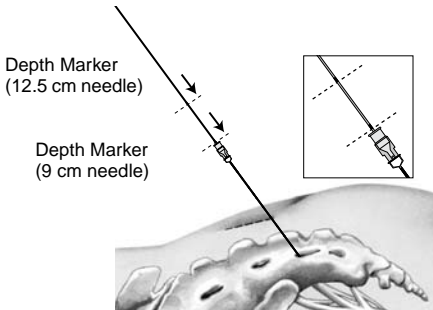

Figure 3. Insert directional guide into foramen needle.
1. Remove foramen needle stylet and replace with directional guide, aligning the bottom of the appropriate depth marker on the directional guide with the top of the needle hub (Figure 3).